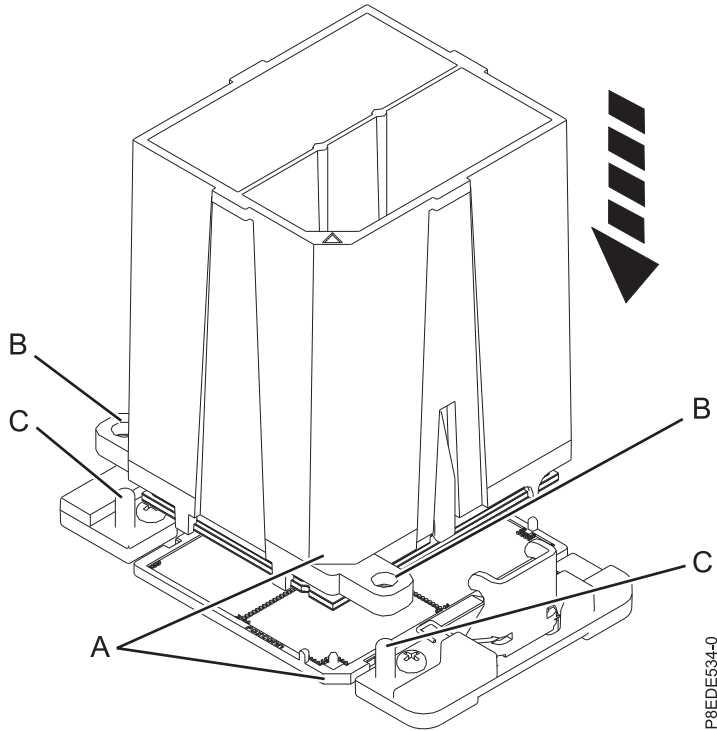

Figure 92. Installing the system processor module
- a. Lower the tool and system processor module onto the socket. Align the beveled corner (**A**) of the tool with the beveled corner on the socket. Ensure that the two guide pins (**C**) are inserted into the alignment holes (**B**) on each side of the tool. Use care to lower the tool evenly without tilting the tool. See Figure 92 on page 91.